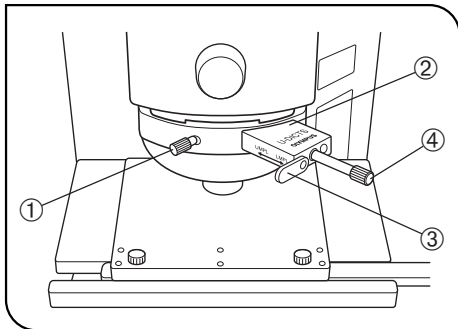

Fig. 13
**2 Setting the DIC Slider (Fig. 13)**
1. Loosen the mounting knob ① on the front of the DIC revolving nosepiece, insert the DIC slider ② so that the surface with indication faces up, and clamp by tightening the mounting knob.
2. With the U-DICR interference slider, set the slide lever ③ according to the objective in use.
(Fig. 13)
1. Adjust the background contrast by turning the prism movement knob ④ on the DIC slider as described below. (Fig. 13)
**4 Switching to Brightfield/Darkfield Observation (Fig. 13)**
1. Loosen the mounting knob ① on the front of the DIC revolving nosepiece, gently pull out the DIC slider ② until it clicks, then clamp by tightening the mounting knob.